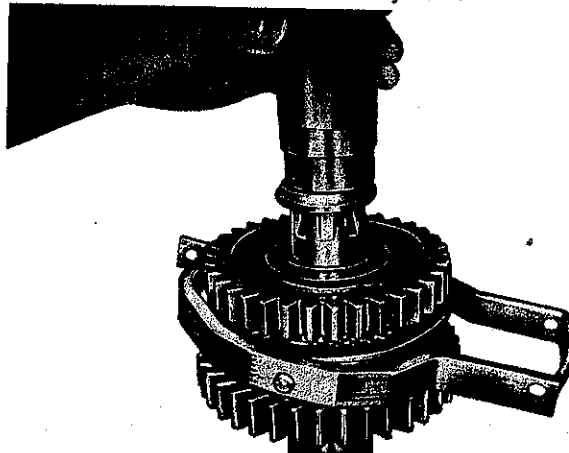

Fig. 30
10. Place thrust washer (429) with collar on top on spur gear. Press one inner race of tapered ball bearing (430) with bushing .9. up to stop on washer (Fig. 30). Running surface of balls up. Clamp main shaft turned by 180°.